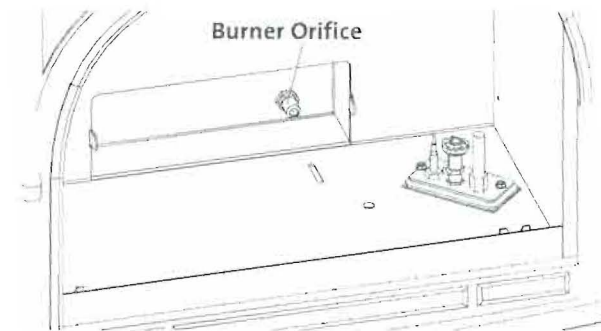

Figure 14. Change the Burner Orifice.
8. Change the Burner Orifice. See fig. 14. Using a 1/2" open ended wrench or deep-well socket remove the burner orifice from its brass elbow housing and replace with the appropriate orifice supplied in the kit.